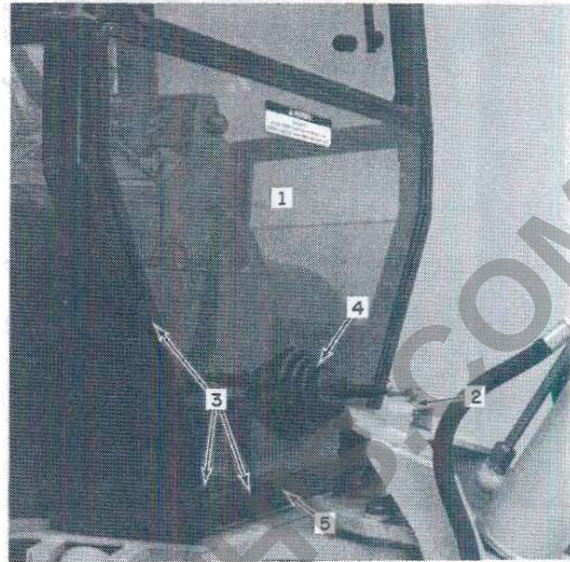

FIGURE 10-39
3. Remove the rear window and one end of the boom lock linkage to get the window off, Figure 10-39.
6. Remove the lower window support, Figure 10-39.